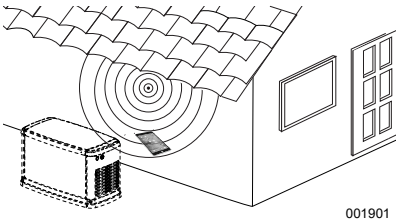

Figure 3-1. Test Wi-Fi Signal Strength
1. See **Figure 3-1**. Position a mobile device in the proposed generator installation location.